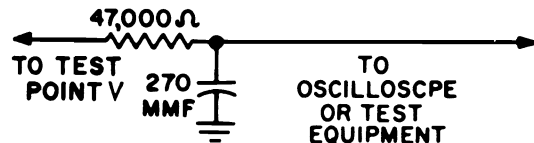

Fig. 5 DECOUPLING FILTER
4. Connect oscilloscope high side to test point "V" through a decoupling filter (see figure 5), low side to chassis.